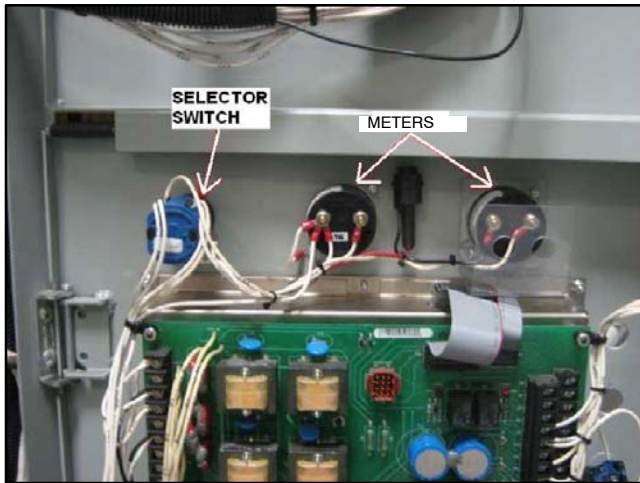
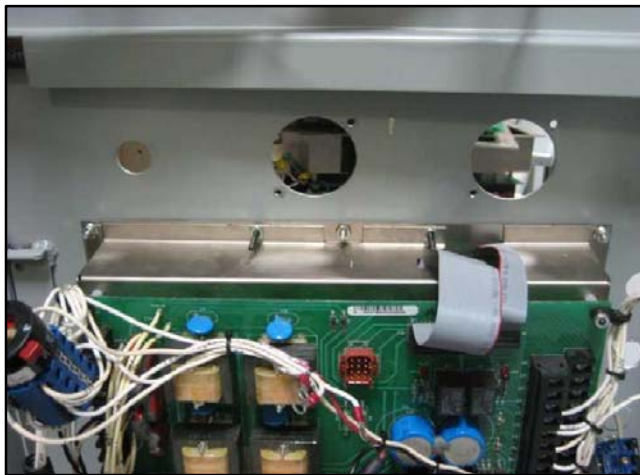

Figure 14 Disconnect the Meters and Selector Switch
Figure 15 Meters and Selector Switch Removed
12. If the transfer switch is equipped with meters, disconnect and remove all meters and the selector switch. See Figure 14 and Figure 15.